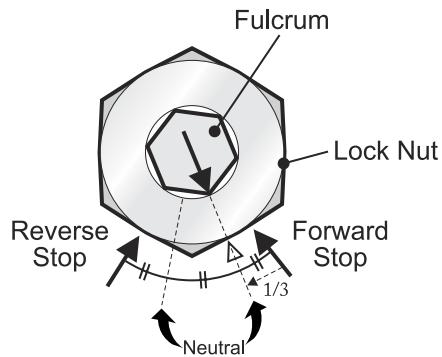

Fig. 51, Neutral Adjustment I
- Turn the Fulcrum Shaft counterclockwise slowly until the Axle Shafts stop rotating in reverse. Mark the Transaxle Case. (Fig. 51)
- Turn the Fulcrum Shaft clockwise slowly until the Axle Shaft stops and mark the Transaxle Case. (Fig. 51)
- Rotate mark on the Fulcrum clockwise to a position one third (1/3) distance from the forward stop point. (Fig. 51)
- Hold the Fulcrum Shaft with a (8 mm) wrench, and tighten the (17 mm) Lock Nut. (Fig. 51)